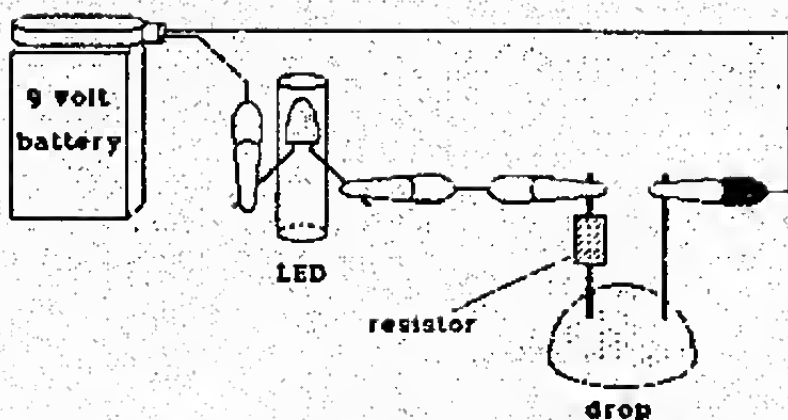

Figure 3: Conductivity Tester.
(1) Construct your conductivity tester as shown in Figure 3. Prop the LED up, by placing it in a plastic straw, and inserting the free end of the straw in the plastic tray provided.